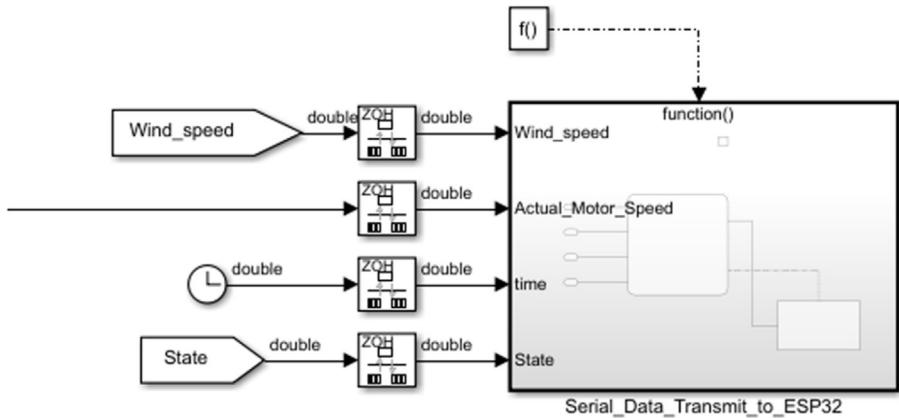

Figure 10.45 Connections to the time and state ports of the `Serial_Data_Transmit_to_ESP32` subsystem.
23. Navigate to the top level of the model and add a **Clock** block, a **From** block, and two **Rate Transition** blocks. Rename the **From** block as State and connect them to the time and State inputs of the Serial_Data_Transmit_to_ESP32 subsystem. In addition to this, delete the arrow coming from the Arduino Mega Running MPC subsystem to the Wind_speed input of the Serial_Data_Transmit_to_ESP32 subsystem. Add another **From** block and rename it as Wind_speed. The changes are shown in Fig. 10.45.